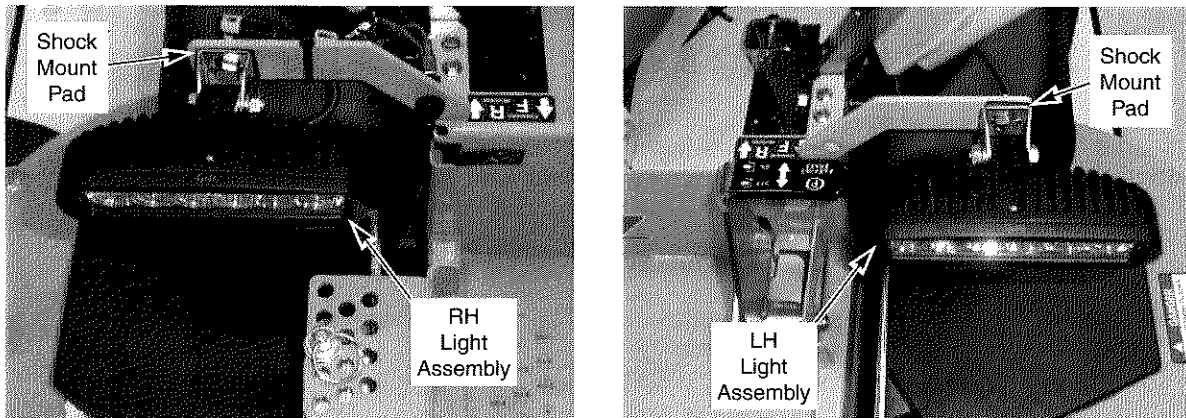

Figure 5. Install RH & LH Light Assembly(s)
6. Install (1) one light assembly and (1) one shock mount pad to each of the mounting brackets installed on the left and right side of the machine and secure using the 5/16-18 x 3/4" bolt(s) installed in the previous step, and (1) one 5/16-18 elastic stop nut. See Figure 5. Tighten the light mounting hardware. Aim the lights forward and tilt slightly downward. Adjustment may be needed after installation has been completed for proper light position.